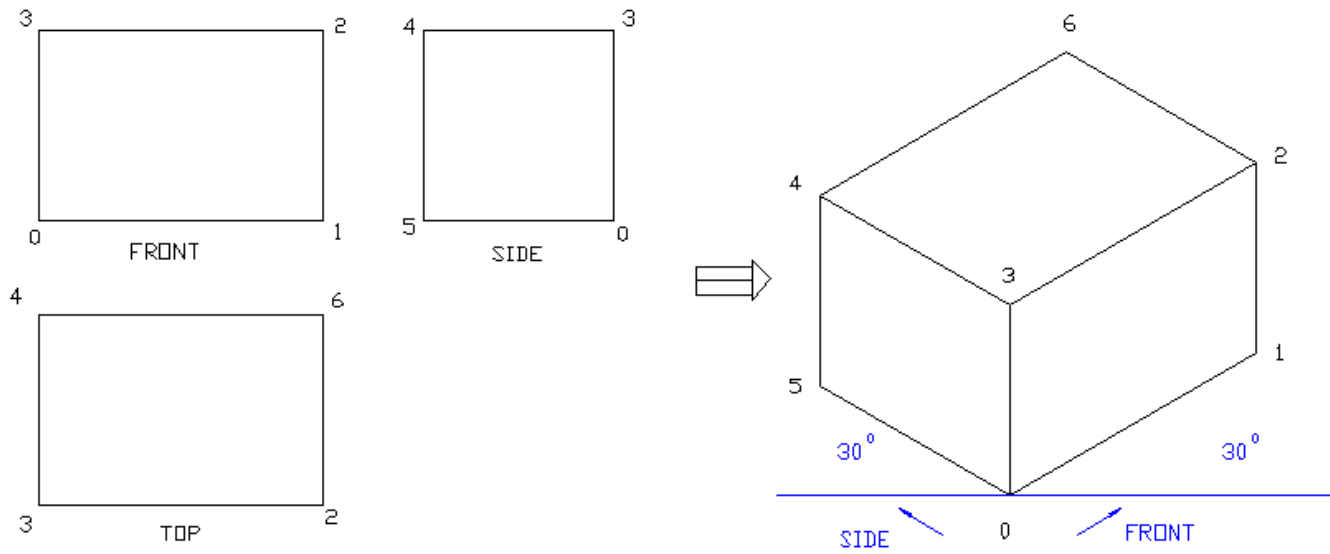

Figure 3 From Views to Isometric
Figure 3, shows the three views of a box, each corner has a number starting from (0) to (7). The isometric view of this model is shown, while the location of each corner is shown in the 3D model. Corner (7) is hidden inside the model, this is why it is not shown.